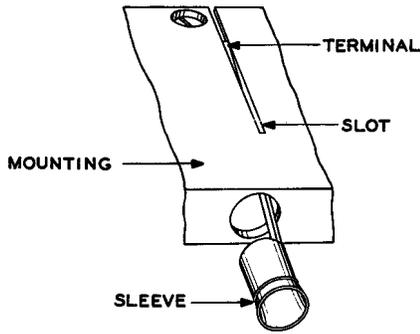

Fig. 6 – Method of Inserting Sleeve Into the 49-Type Jack
3.13 In the case of the 49-type jack, hold the sleeve so that the terminal is at the right and insert it into the mounting so that the terminal will enter the slot as shown in Fig. 6.